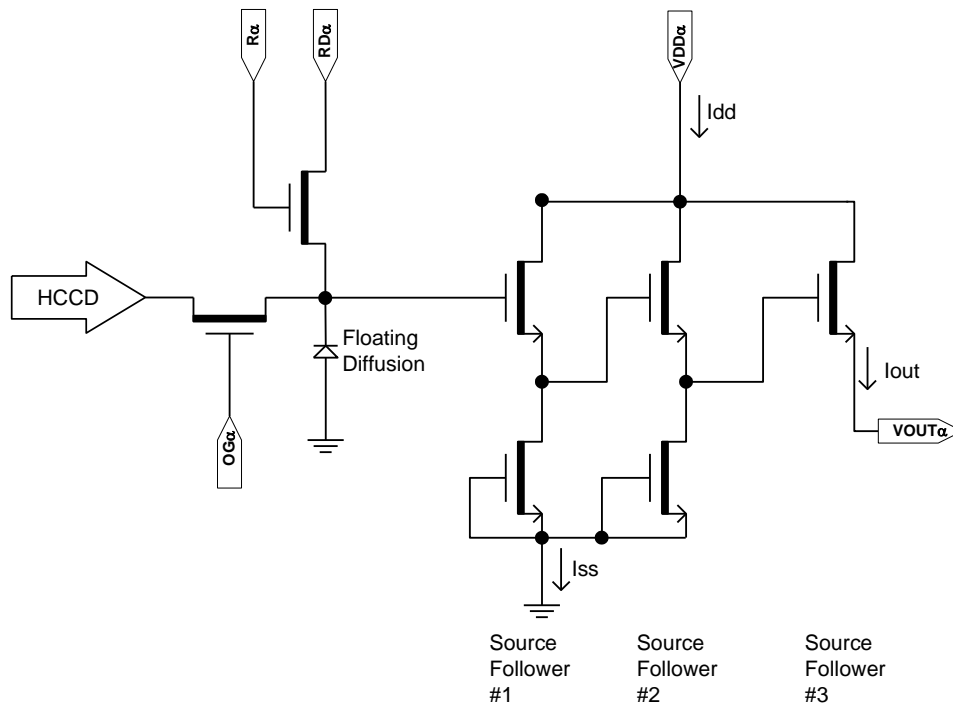

Figure 16: Output Amplifier
2. The maximum DC current is for one output. Idd = Iout + Iss. See Figure 16.